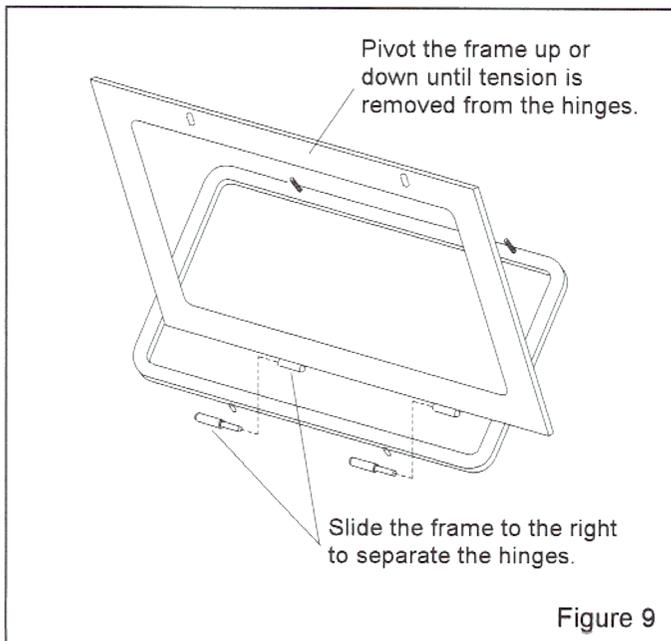

Figure 9
## 7.5 Window Frame Removal, Figure 9
**7.5.4** Slide the frame to the right, to remove. The hinges separate as shown in Figure 9.